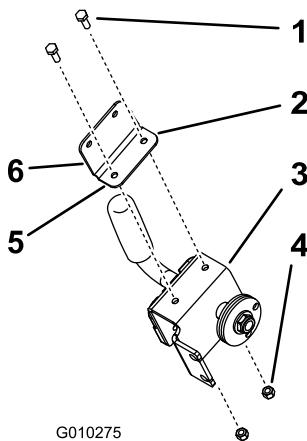

Figure 5
1. Install the handle assembly to the angle bracket with 2 bolts (1/4 x 3/4 inches) and 2 locknuts (1/4 inch)(Figure 5). Ensure to use the correct bracket.